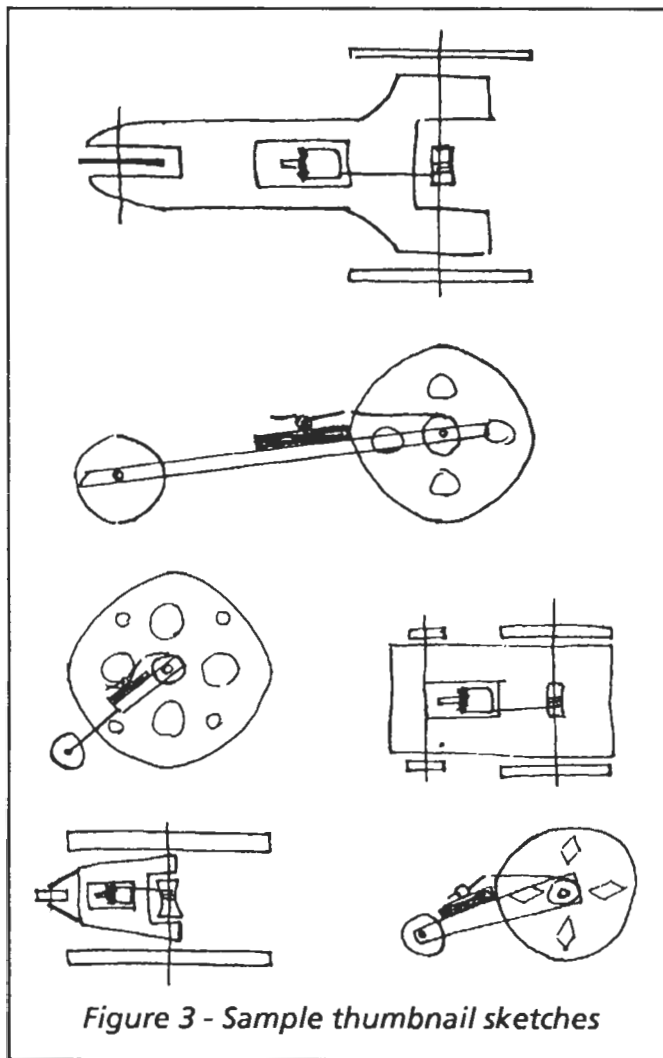

Figure 3 - Sample thumbnail sketches
3. Make a series of **thumbnail sketches** of possible design ideas. (See Figure 3.) You will have to select one of your design ideas to use in building your prototype.